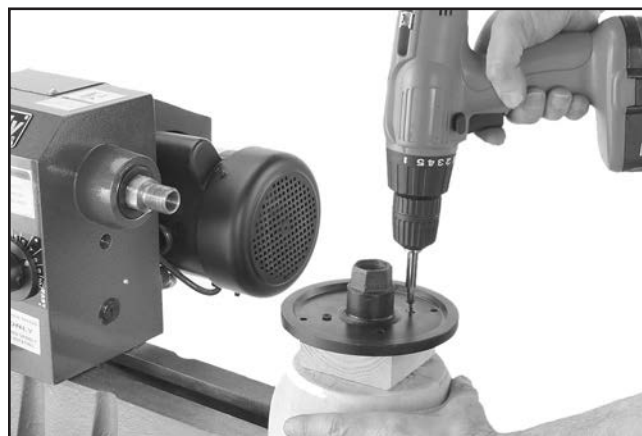

Figure 31. Typical attachment of faceplate to workpiece.
2. Center faceplate on workpiece, mark and drill pilot holes with 1/4" drill bit, and attach faceplate (see **Figure 31**) with wood screws.